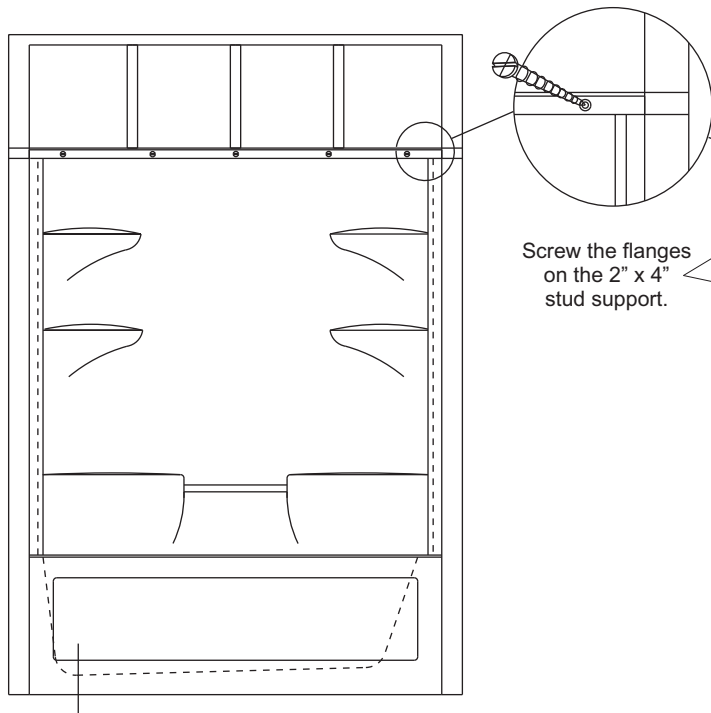

FIGURE 3 - BA5 FASTENING WITH DRYWALL SCREWS
- The shower is fastened in place using dry wall screws. Holes are to be drilled in by the installer around the top periphery as shown in figures 3 and 4.